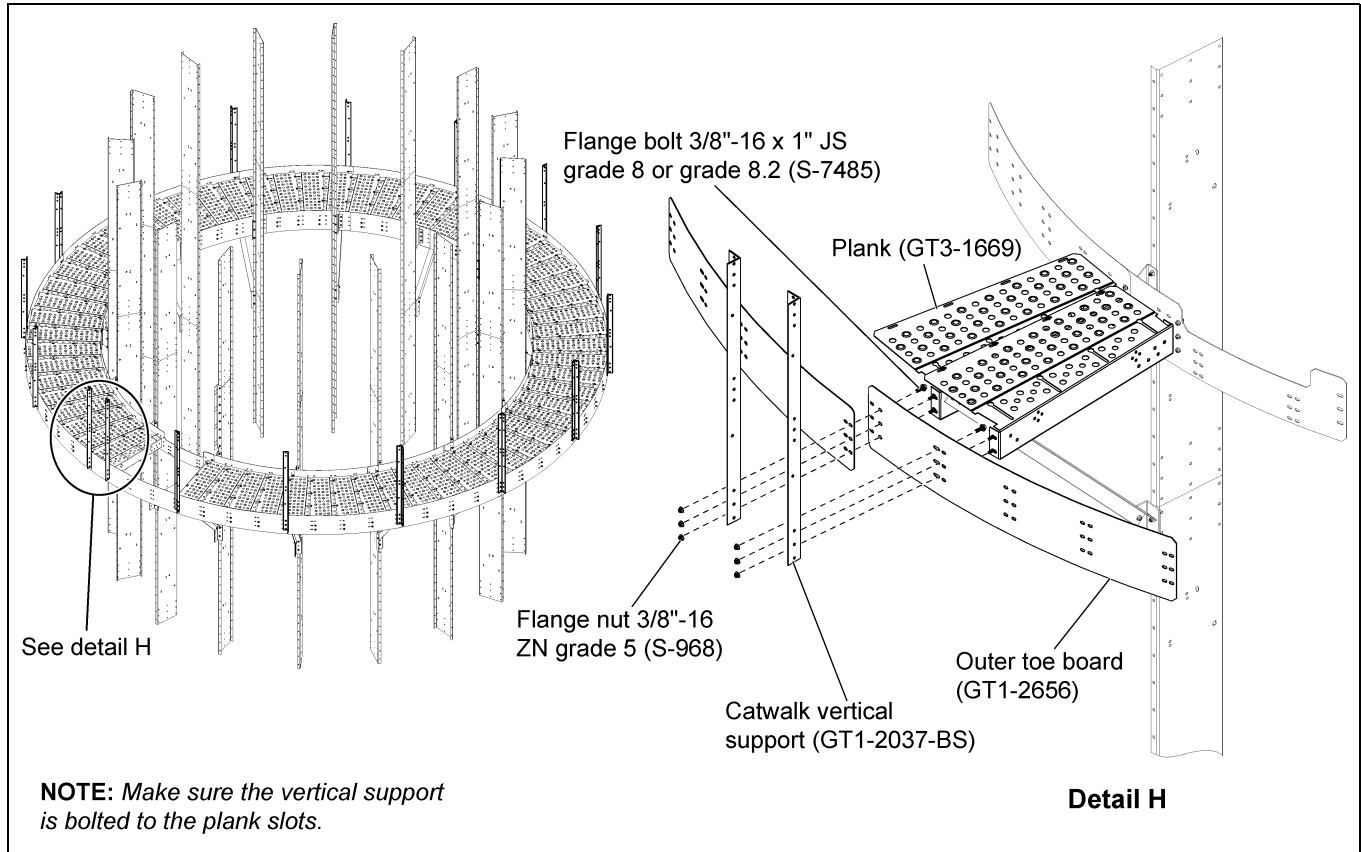
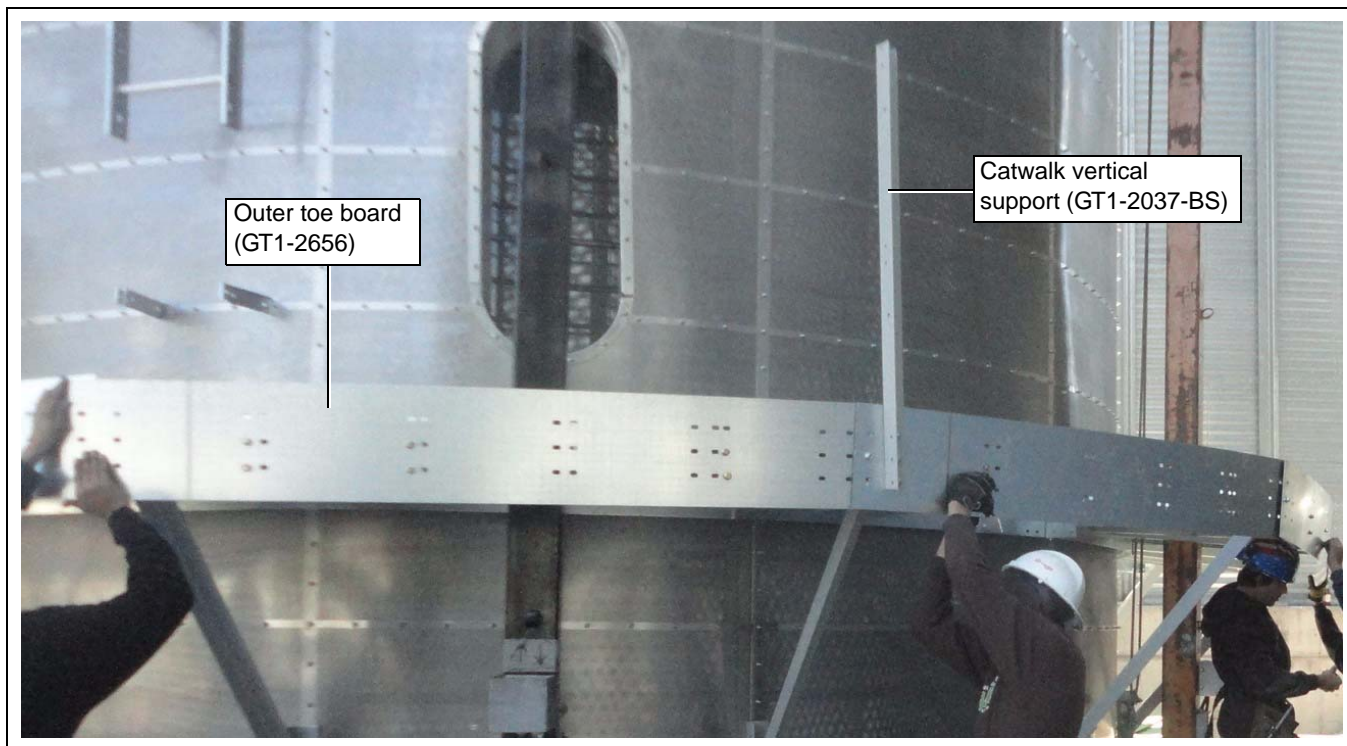

Figure 4R
Figure 4T
1. Install all the outer toe boards (GT1-2656) to the planks (GT3-1669). (See Figure 4R.)
2. When installing the outer toe board (GT1-2656) with planks (GT3-1669), install the catwalk vertical support (GT1-2037-BS) simultaneously at proper locations using 3/8"-16 x 1" JS grade 8 or grade 8.2 bolts (S-7485) and 3/8"-16 ZN grade 5 nuts (S-968). (See Figure 4R below and Figure 4T on Page 27.)